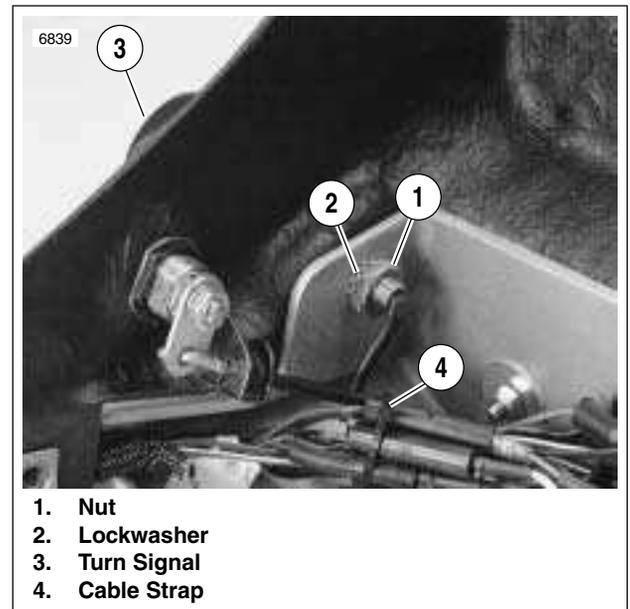

Figure 7-45. Rear Turn Signals
4. See Figure 7-45. Remove nut (1) and lockwasher (2).
5. Remove turn signal (3) from outside of trunk.
1. See Figure 7-45. Insert bullet connectors through rear hole in trunk. Attach turn signal (3) using lockwasher (2) and nut (1). Tighten nut to 96-120 **in-lbs** (11-14 Nm).